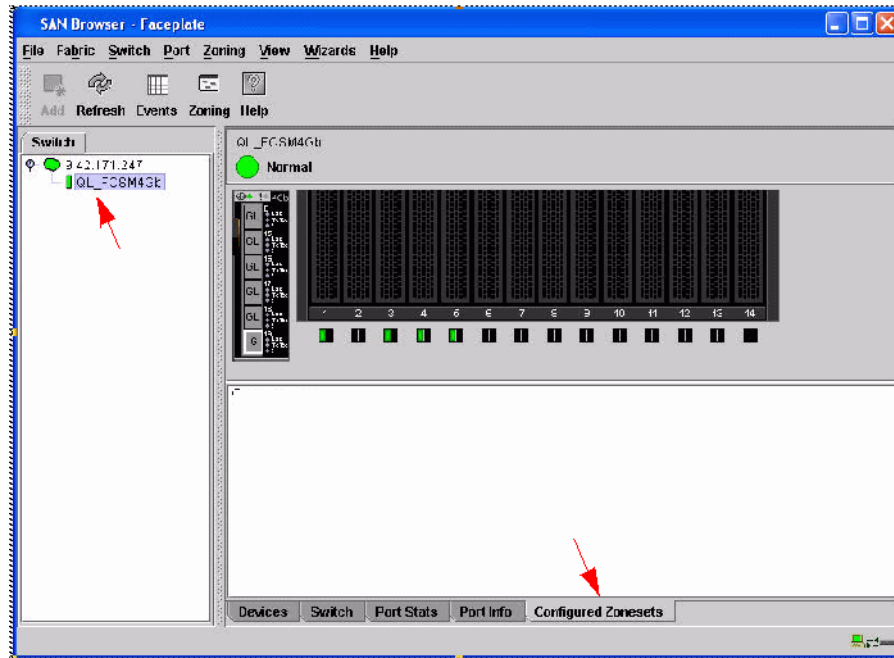

Figure 7-49 SAN Browser - Faceplate window
- From the Faceplate, select the **Configured Zoneset** tab (Figure 7-49). Verify there are no zones configured on the switch. If there are zones configured, see manufacturer user's guide for instructions on how to remove the zone set and zones.